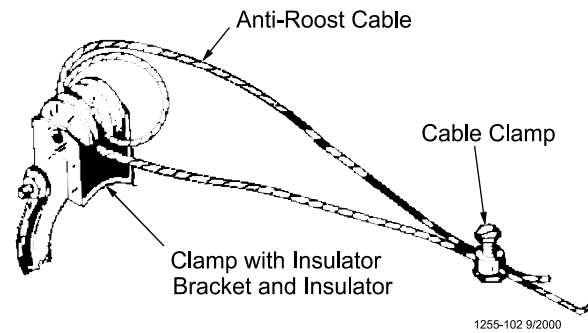

Figure 67. Anti-Roost Cable at the Hopper
2. Start at the hopper end of the line and form a loop around the anti-roost bracket. For best results, make a double loop around the anti-roost insulator in the center groove of the insulator and fasten with a 1/16" cable clamp as shown in **Figure 67**.